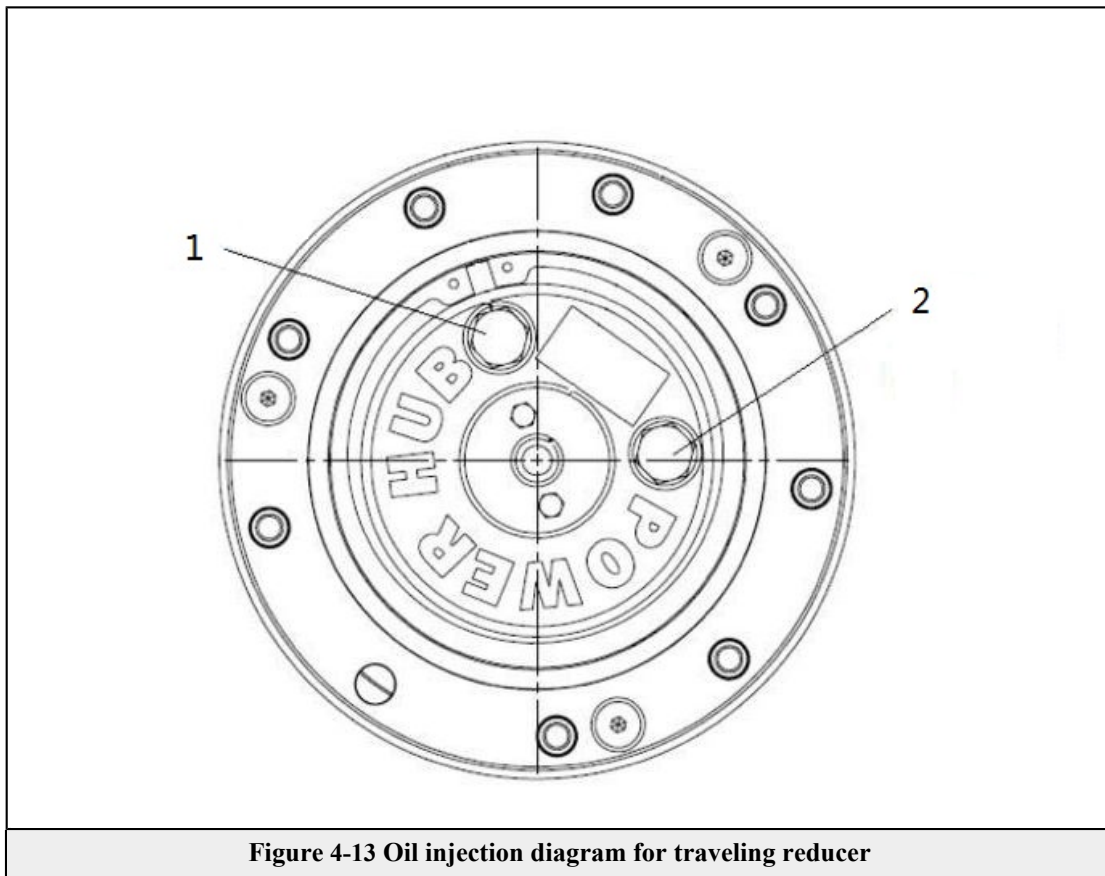

Figure 4-13 Oil injection diagram for traveling reducer
See Figure 4-13 for oil injection. Operation procedures are as follows:
- 1) Rotate the reducer until the hole is in horizontal status, as shown in Figure 4-13.